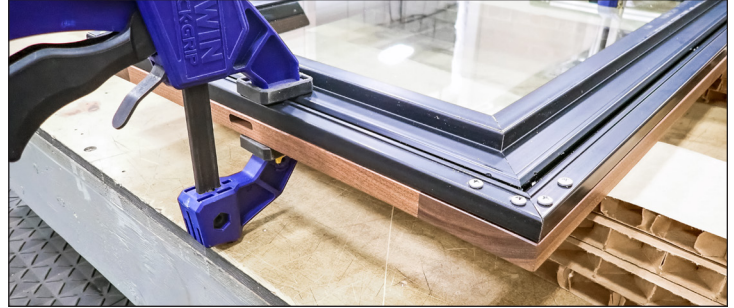

Fig. 6. Be sure the overlay's center slot is positioned at the top of the door.
4. Place the door facedown on the overlay. Then, center the door and overlay. See fig. 6.
5. Clamp the door and panel. See fig. 6.